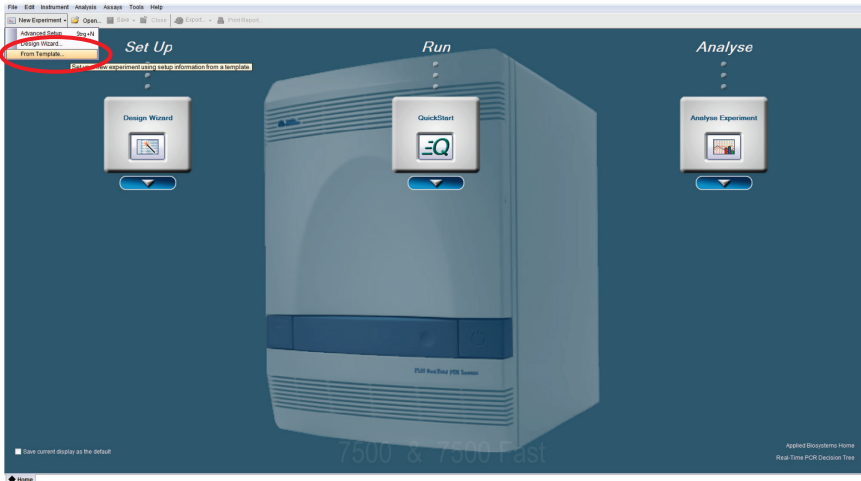

Figure 23. Starting a new experiment from a template.
9. If you are using a template file, then select **New Experiment/From Template** (Figure 23, next page) and proceed to step 13, page 47, to assign the Targets to the Plate Layout. Then proceed to step 17, page 49, to save and start the run. If you are not using a template file, proceed with step 10.